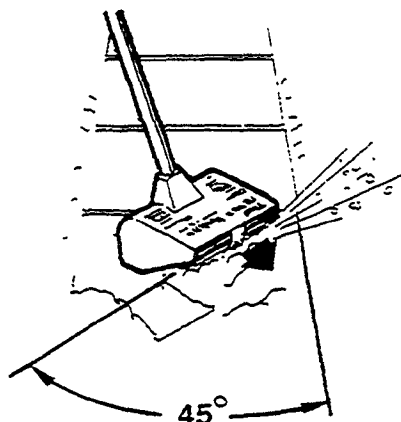

Figure 43
- Push the unit at an angle of approximately 45° to the path you wish to clear until you reach arms length. Lift it out of the snow, and return to your first starting point to make another pass, moving forward with each angular pass (Fig. 43).